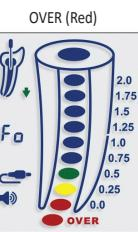

Fig. 11
**⚠ The red OVER indication accompanied by frequent beeps indicates that the file tip have progressed beyond the foramen into the periapical region - 'Foramen over-instrumentation' (Fig. 11).**